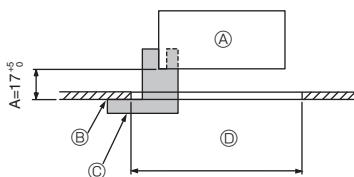

Fig. 9-2
① Grille	1	950 x 950 (mm)
② Installation gauge	1	(Divided into 4 parts)
③ Screw (4 x 16)	1	For PLP-6EAE, PLP-6EALE, PLP-6EALME
④ i-see Sensor corner panel	1	For PLP-6EAE, PLP-6EALE, PLP-6EALME
⑤ Wireless remote controller	1	For PLP-6EALM, PLP-6EALME
⑥ Remote controller holder	1	Included when equipped with the wireless remote controller.
⑦ LR6 AA batteries	2	Included when equipped with the wireless remote controller.
⑧ 3.5 x 16 tapping screws	2	Included when equipped with the wireless remote controller.
9.2. Preparing to attach the grille (Fig. 9-2)
- With the gauge ② supplied with this kit, adjust and check the positioning of the main unit relative to the ceiling surface. If the main unit is not properly positioned relative to the ceiling surface, it may allow air leaks or cause condensation to collect.